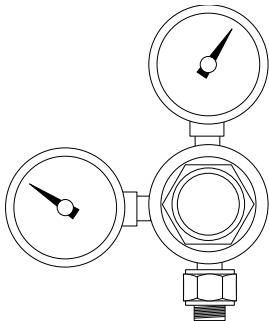

Figure 3. Preset Regulator
3. Screw the preset regulator supplied with this welder (see Figure 3) into the cylinder valve and tighten with a wrench.